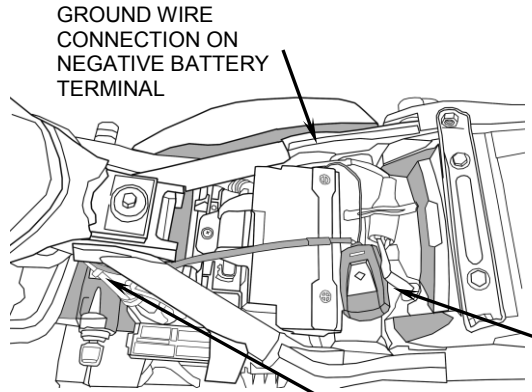

FIGURE 1
3. Place the Fi2000 in the under seat area and route the harness forward under the front seat mount, see Figure 1. Route up the center frame tube toward injectors along the left side.
8. Remove the Phillips screw attaching cover over battery. Lift cover rearward to access battery terminals. Attach the black ground cable to the **NEGATIVE** post of the battery. See Figure 1. Close battery box cover and install Phillips screw. Install supplied zip tie to harness in location shown.
9. Velcro the Fi2000 box on top of the frame rail behind the battery box cover and verify your connections. Remove the door from the Fi2000 box to expose the LED lights and pot settings. Verify the wire connections by (1) turning on the ignition while watching the 3 LEDs, confirm that all 3 LEDs light up and remain on. If you don't see lights, make sure the sidestand is up, bike is in neutral, clutch is in and handlebar engine switch is set to run. If you still have no lights, re-check that all connectors are fully engaged and the ground wire is connected correctly. (2) After achieving a steady light from all three LED's, start the motorcycle; the green light should now be the only LED on. If all three LED's are still on after start up, verify you have attached the injector connectors correctly. Reattach the access door when finished. **Note:** Make sure the ignition is turned off before changing any connection.